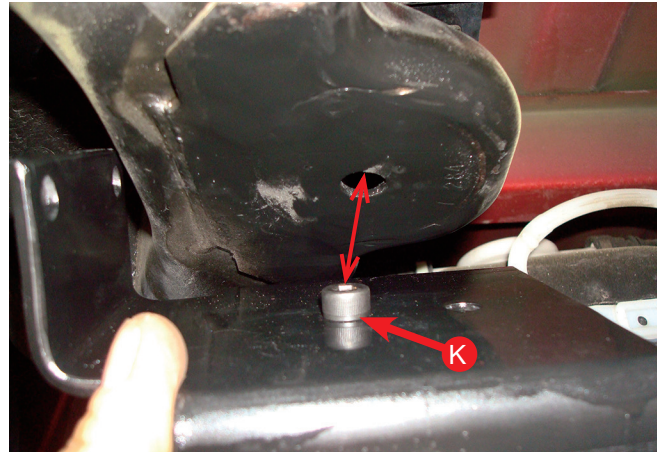

Fig. 10
9. Set the frame bracket (with the socket head bolt in it), on the frame, with the flange pointing up. Insert the socket head bolt line up tool into the existing hole in the frame that was under the stock jounce bumper (Fig. 10).